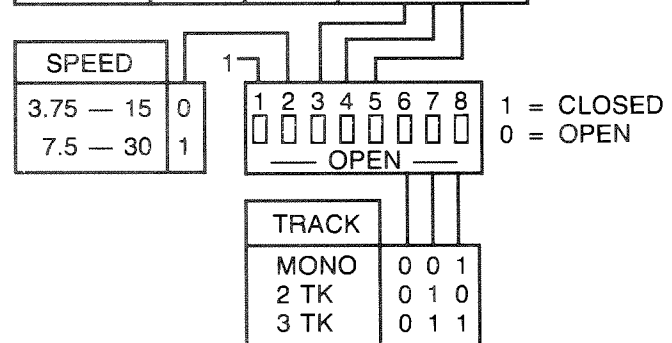

**Figure 6-12. Headstack Adjustment Screws**
**STEP 1** Turn the height adjustment screw (refer to Figure 6-12) clockwise to raise the head or counter clockwise to lower the head.